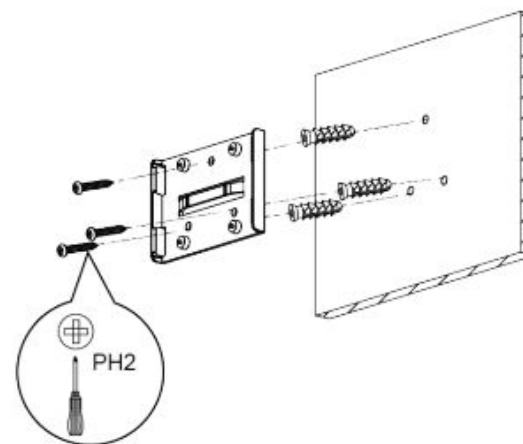

Figure 2-2
Step 2 Install the expansion screws and then the camera backplate with included screws. See Figure 2-2.